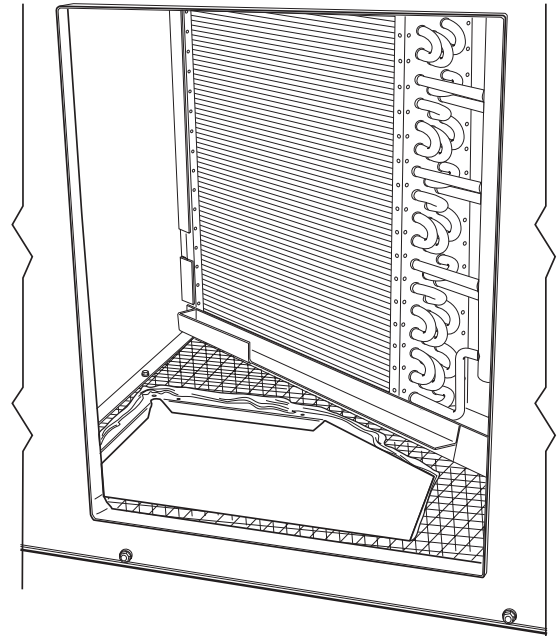

Fig. 14 — Vertical Duct Cover Removed
4. Using a straight edge and sharp knife, cut and remove the insulation around the perimeter of the cover. Remove and save 5 screws securing the cover to the basepan and slide out the cover. Discard the cover (Fig. 14).